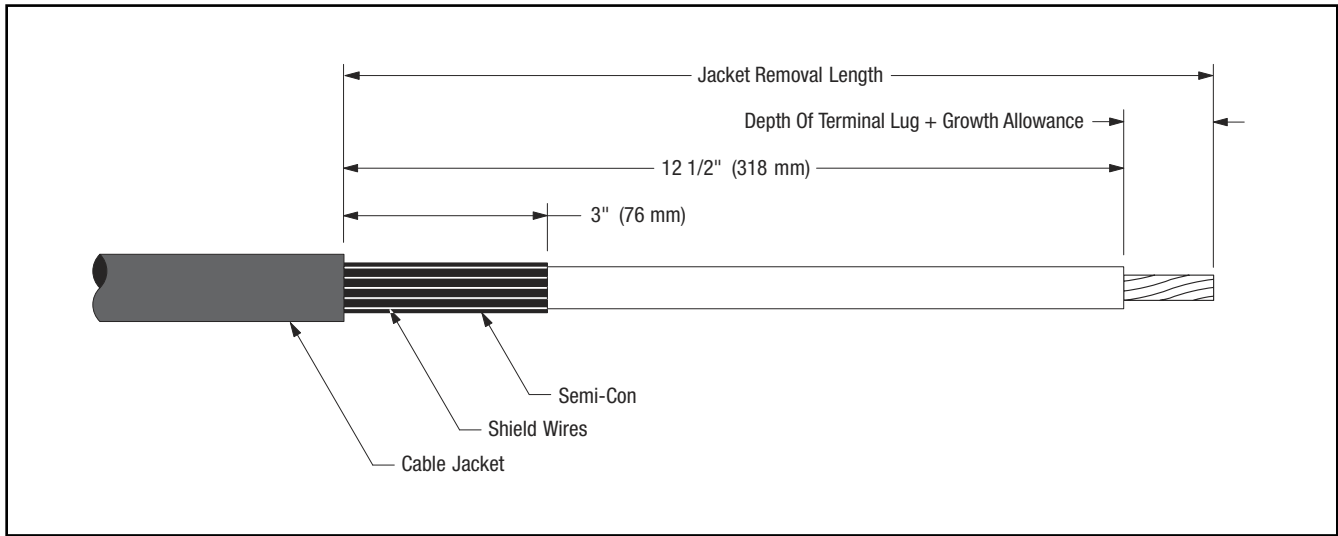
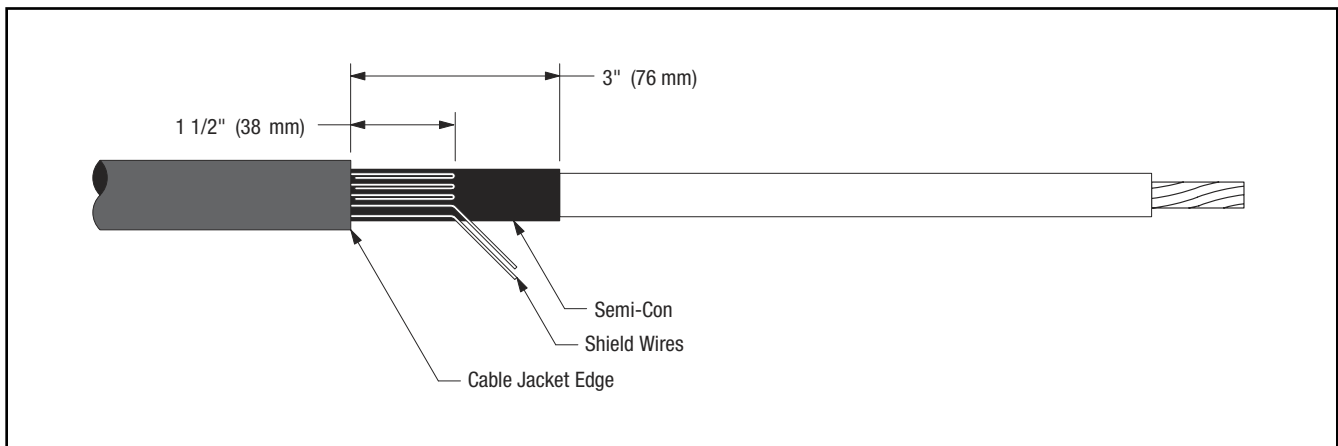

Figure 8
Figure 9
- 6.2 Prepare cable using dimensions shown in *Figure 8 and Figure 9*. **BE SURE TO ALLOW FOR DEPTH OF TERMINAL LUG.**
- 6.3 Bend leading 1 1/2" (38 mm) of exposed shield wires back upon themselves to jacket edge (*Figure 9*).